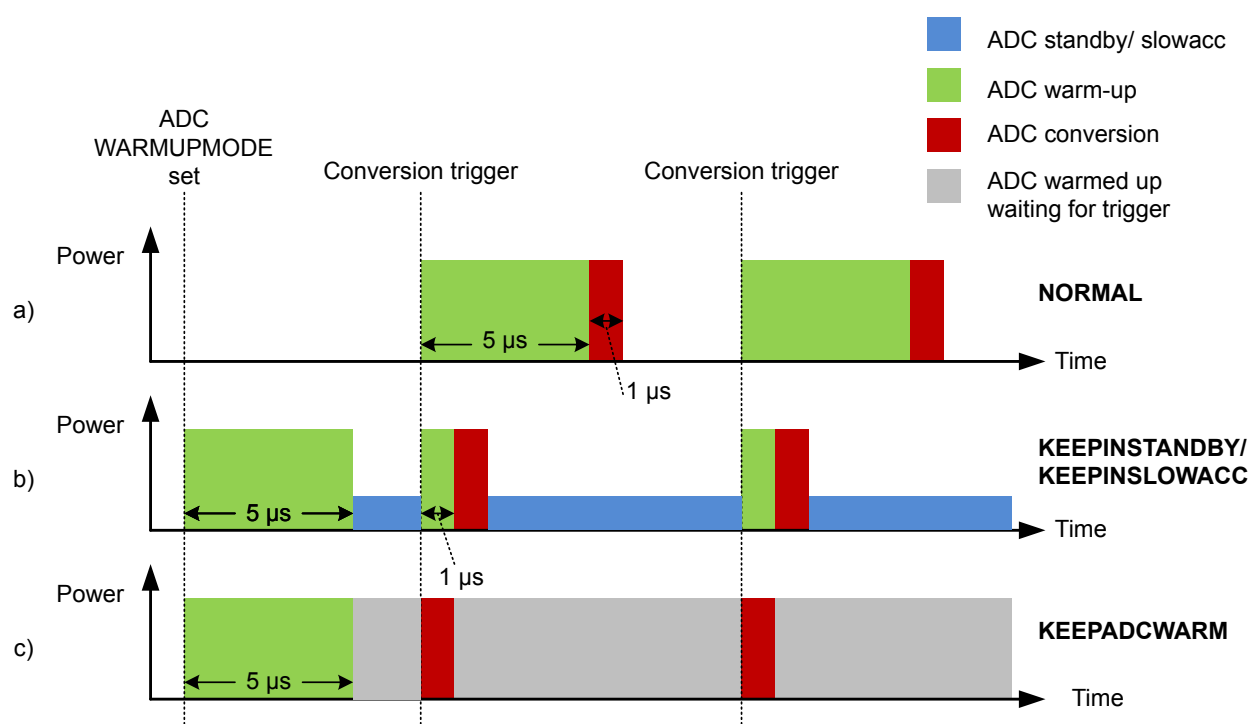

Figure 24.4. ADC Analog Power Consumption With Different WARMUPMODE Settings
Normally, the ADC will be warmed up only when samples are requested and is shut off when there are no more samples waiting. However, if lower latency is needed, configuring the WARMUPMODE field in ADCn_CTRL allows the ADC and/or reference to stay warm between samples, reducing the warm-up time or eliminating it altogether. Figure 24.4 ADC Analog Power Consumption With Different WARMUPMODE Settings on page 756 shows the effects on analog power consumption in scenarios using different WARMUPMODE settings.
- **NORMAL:** This is the lowest power option for general-purpose use and low sampling rates (below 35 ksp/s). The ADC and references are shut off when there are no samples waiting. The ADC does not consume any power when it is shut down. A 5 μ s warmup time will be initiated prior to every conversion. Figure a in Figure 24.4 ADC Analog Power Consumption With Different WARMUPMODE Settings on page 756 shows this mode.
- **KEEPINSTANDBY:** This mode is suitable for infrequent sampling of lower impedance inputs, and is the lowest power option for sampling rates between about 35 and 125 ksp/s. It may also be useful for lower sampling rates where latency is important. The reference selected for scan mode is kept warm, but the ADC is powered down. The ADC will initiate a 1 μ s warmup period before a conversion begins. Because the reference is kept warm, the ADC will consume a small amount of standby current when it is not converting. Figure b in Figure 24.4 ADC Analog Power Consumption With Different WARMUPMODE Settings on page 756 shows this mode.
- **KEEPADCWARM:** This mode provides the lowest latency and allows for maximum sampling rates. The ADC and reference circuitry remain powered on even when conversions are not in progress. Figure c in Figure 24.4 ADC Analog Power Consumption With Different WARMUPMODE Settings on page 756 shows this mode. This mode consumes the most power, but as soon as a trigger event occurs, the acquisition and conversion begin with no warm-up time. Note that if KEEPADCWARM mode is set and HFXO is selected as the ADC clock source, the HFXO will remain on in EM2.